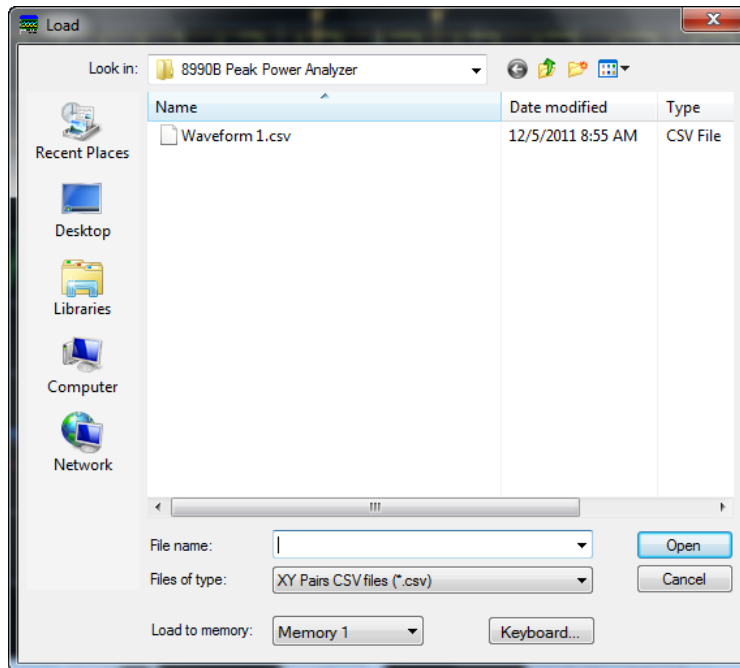

Figure 2-51 Load waveform from file
- 6 The Load Waveform dialog is displayed as shown in Figure 2-51. You can select the waveform memory for the waveform data file to load into by selecting the **Load to memory** to display the waveform memory list.